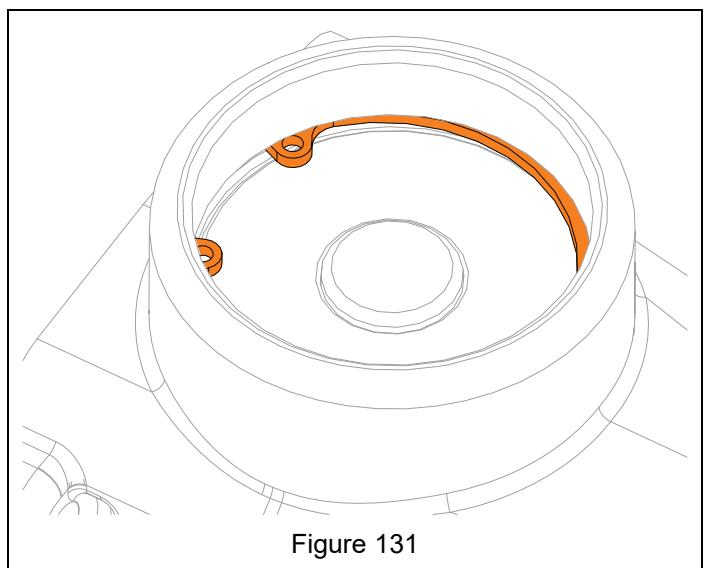

Figure 131
10. Using snap ring pliers, remove retaining ring. See Figure 131.